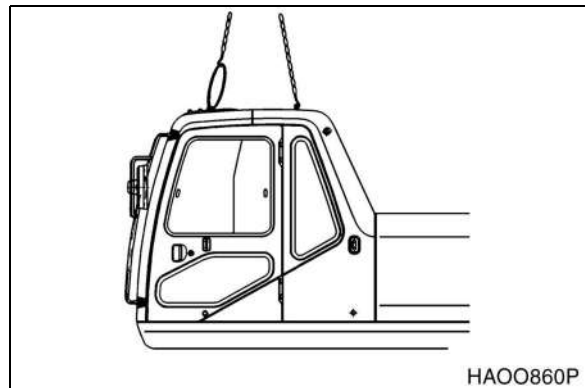

Figure 7
27. Using a suitable lifting device, attach slings to four lift points on top of cab (Figure 7).
- Using a suitable lifting device, attach slings to four lift points on top of cab (Figure 7).